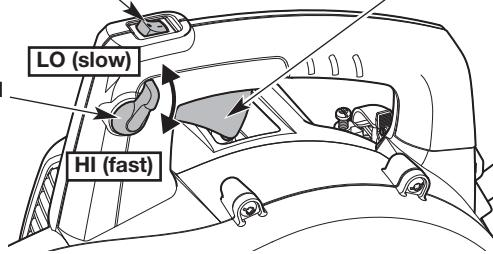

Fig. 3
**NOTE:** There is no need to turn the unit on. The On/Off switch is in the **On (I)** position at all times (Fig. 3).
4. Squeeze and hold the throttle control or move the cruise control to the **HI (fast)** position (Fig. 3).
**NOTE:** Continue to **SQUEEZE** and **HOLD** the throttle control, or keep the cruise control in the **HI (fast)** position, for ALL further steps (Fig. 3).
2. Press and hold the On/Off switch in the **Off (O)** position until the engine comes to a complete stop (Fig. 3).
- Use the cruise control to make continuous operation easier (Fig. 3).